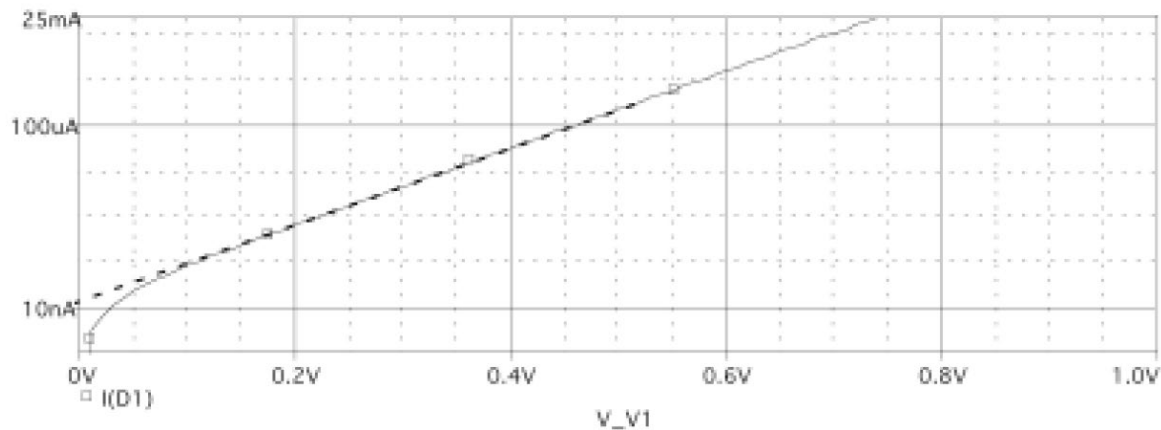

Figure 2.6
- Using the data obtained in part 2, re-plot i_D (log scale) versus v_D (linear scale). Use only the diode voltages from 0 to 1.6V. A graph like the one shown in Figure 2.6 should result. Extrapolate the linear portion of the curve (higher current values) to the y-axis as shown by the dashed line. Use the resulting y-axis intercept along with the results of the preliminary calculations (2b) to find a value for I_S . Expected values for I_S are in the nano-ampere range.